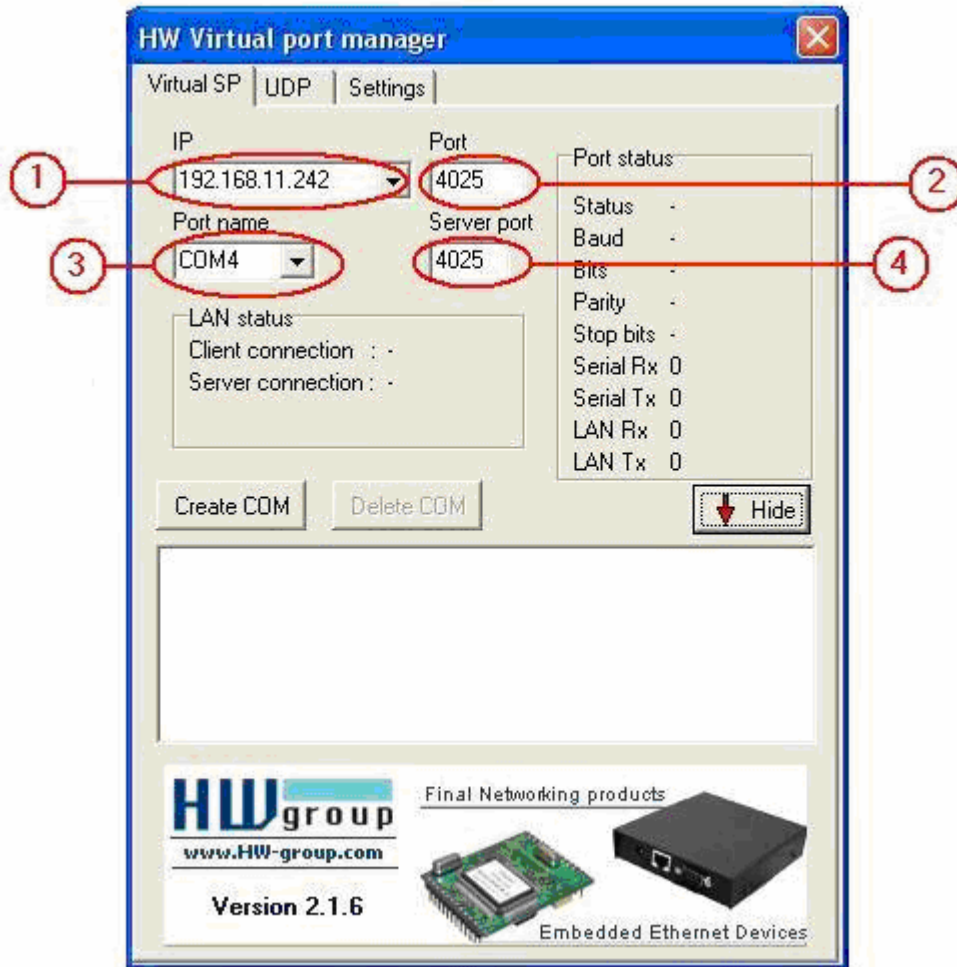

Figure 3-3 Windows of VSP
- **IP** (No.1 in Figure 3-3): The IP address of the remote serial port device. It can be automatically identified by using the UDP tab.
- **Port** (No.2 in Figure 3-3): An incoming port of the remote serial port device. User's PC opens a TCP/IP connection to this port and sends data.
- **Port Name** (No.3 in Figure 3-3): Choose a number of the port from COM2 to COM20.
- **Server Port** (No. 4 in Figure 3-3)